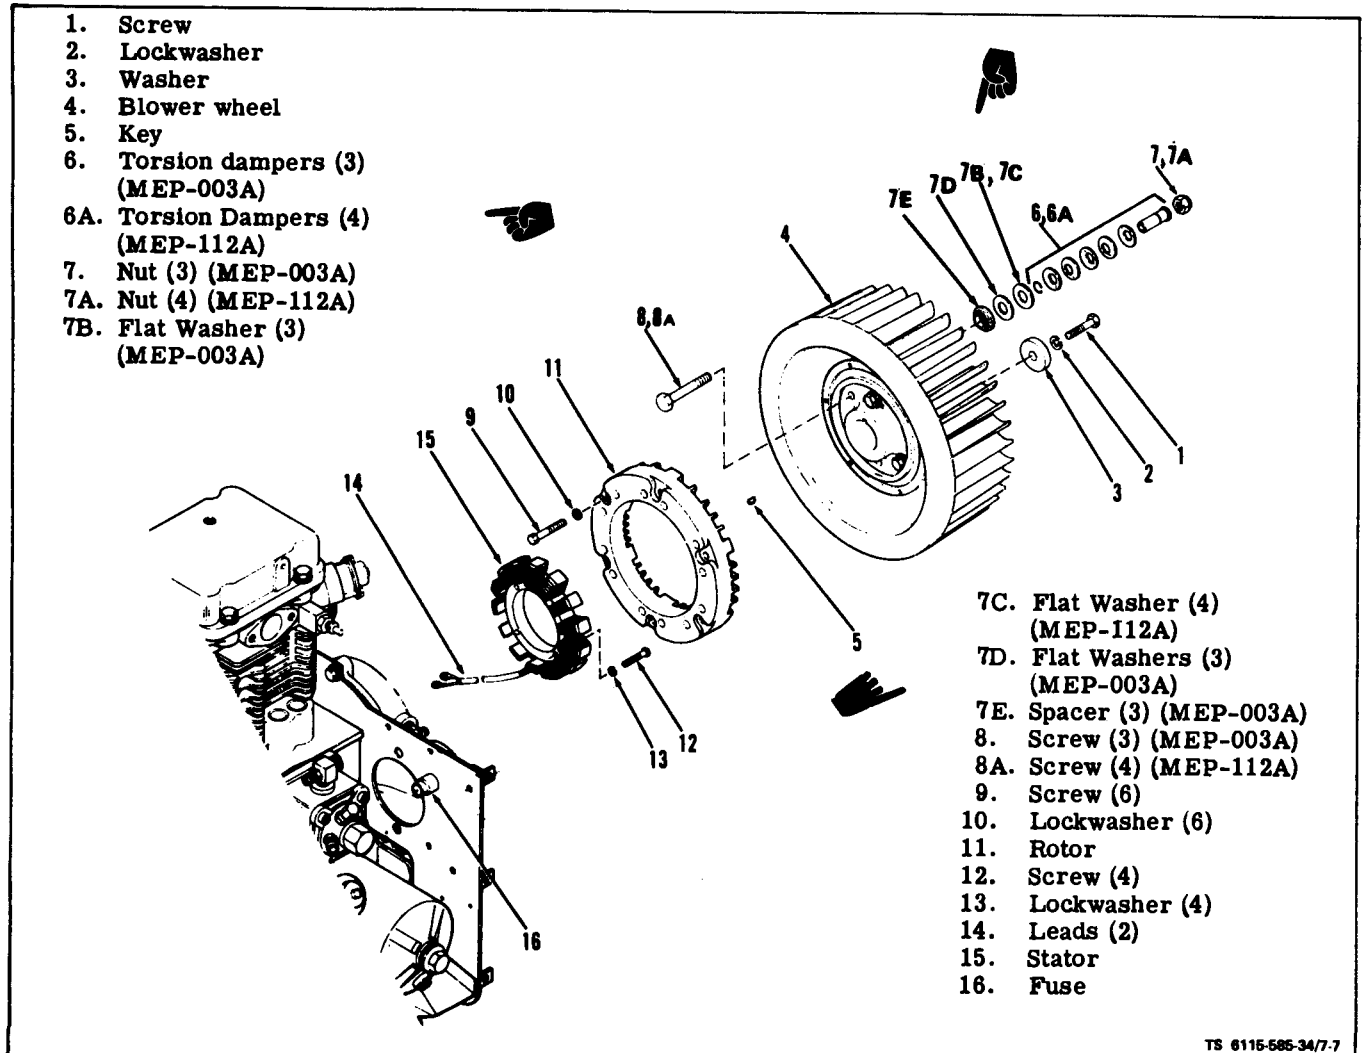

Figure 7-7. Battery Charge Alternator and Blower Wheel
- a. Inspect (see figure 7-7).
(1) Refer to Operator and Organizational Maintenance Manual and remove blower housing.
(2) Check blower wheel (4) for cracks or broken fins. Check for free play between blower wheel and hub. Replace torsion damper assemblies (6) if free play is present.
b. Removal. Remove screw (1), lockwasher (2) and washer (3), attaching blower wheel to crankshaft. Use two 5/16-24 screws in blower hub and a suitable puller to remove blower wheel (4) and key (5).
### a. Inspect (see figure 7-7).
(1) Rotor. Refer to Operator and Organizational Maintenance Manual and remove the blower housing. Remove blower wheel assembly (4, figure 7-7) per paragraph 7-7. Remove rotor mounting screws (9) and lockwashers (10) attaching rotor(11) to blower wheel (4) and remove rotor (11).
(2) Stator. Disconnect stator leads (14, figure 7-7) from terminal block on engine back plate. Remove wire clamp from oil filter casting. Remove screws (12) and lockwashers (13) attaching stator (15) to engine and remove stator (15).